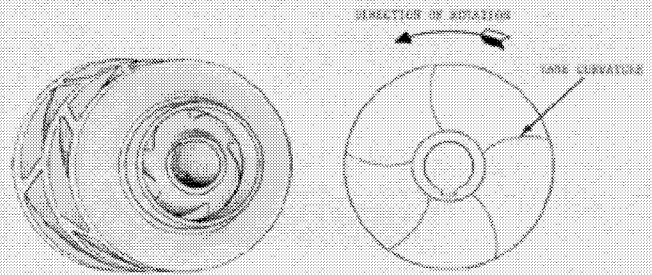

Figure 8A
1. Determine the correct positioning of impeller on shaft. Facing the coupling end of shaft, determine proper rotation of unit (clockwise or counter-clockwise). Figure 8A shows proper relationship between rotation and impeller vane curvature for counter-clockwise rotation.